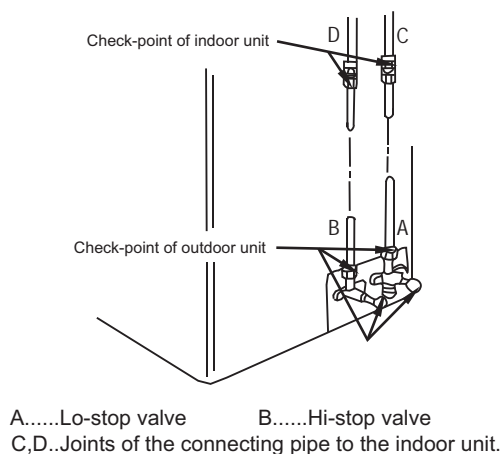

Fig.7-6
- Check all the joints with the leak detector or soap water. (See Fig.7-6 as a reference illustration)